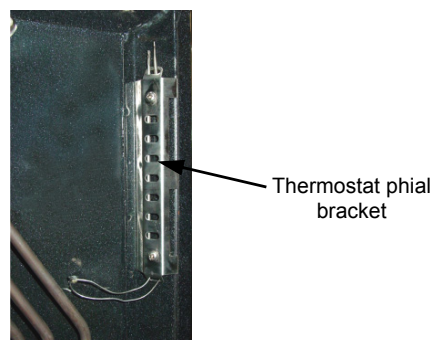

Figure 6.3.10
- 3) Open oven door, remove racks and fan baffle rack. Loosen the thermostat phial bracket (refer figure 6.3.10).